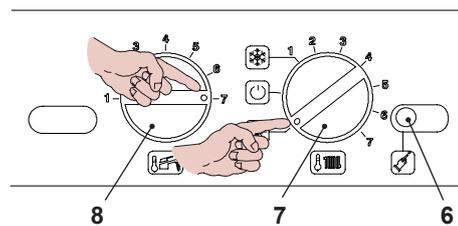

Figure 17.9
- Position the control panel knobs as shown in Figure 17.9.
- To enter Chimney cleaning mode, enter programming by pressing the reset button 6 in Figure 17.9 for 15 seconds
- Press the reset button 6 Figure 17.9 to scroll the various parameters until reaching the valid parameter **P09** for the Chimney cleaning mode setting: the following will appear on the LCD display (the sequence **P09** alternates with **00**).